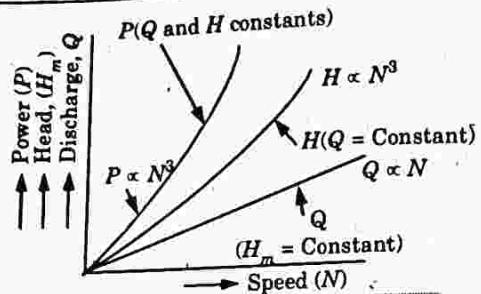

Fig. 4.25.1. Main characteristics curves.
- Fig. 4.25.1 shows main characteristic curves of a pump.